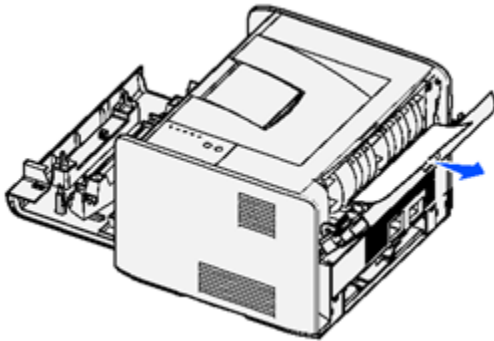

Figure 5: Remove Jams From the Rear of the Printer
6. Open the rear exit and remove any jams (**Figure 5**).